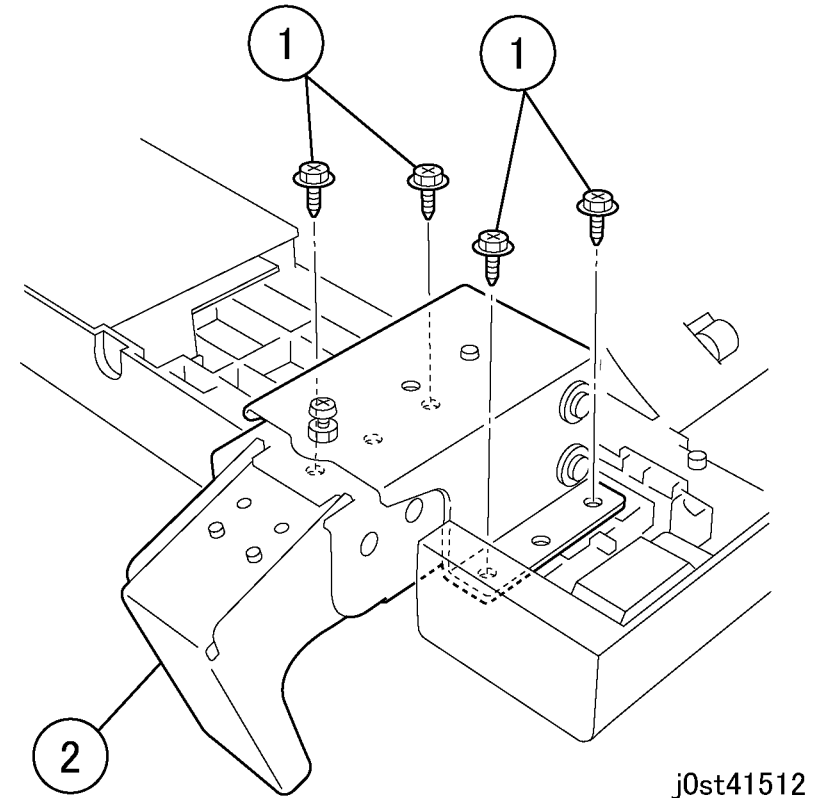

Figure 1 Removing the Left Counter Balance (j0st41512)
6. Remove the Left Counter Balance. (Figure 1)